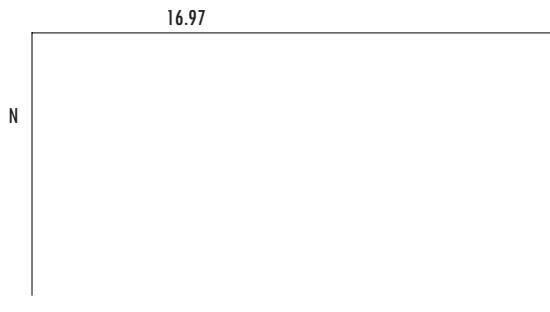

Figure 7-32
Just as the roof pitch for common rafters is designated in inches of rise (N) per foot run, or N/12, the pitch for hip and valley rafters is designated in inches of rise (N) per 16.97 inches of run, or N/16.97 (Figure 7-32). The number 16.97 is to the hip and valley rafter as 12 is to the common rafter. Where do we get the number 16.97? Let's look at an example.